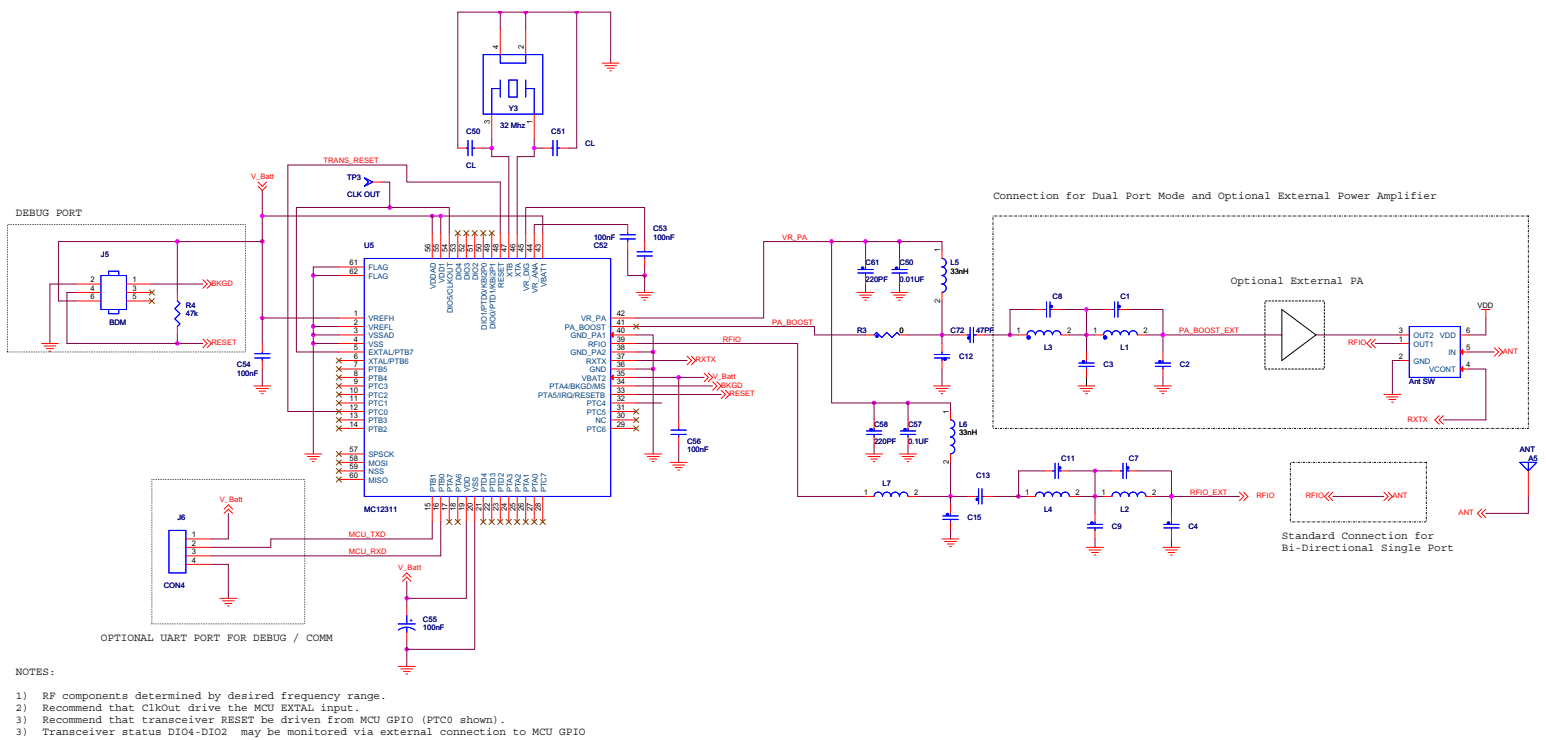

Figure 31. MKW01Z128 Application Circuit Options
Figure 31 shows a MKW01Z128 typical applications circuit with and without use of an external power amplifier (PA) (driven by the RF power boost feature). Note a number of circuit features:
4. Freescale also recommends that the transceiver RESET is driven by an MCU GPIO to provide total hardware control of the transceiver. Figure 31 shows GPIO PTC0 (preferred), but any GPIO can be used.
Two common RF wiring options are shown in Figure 31: